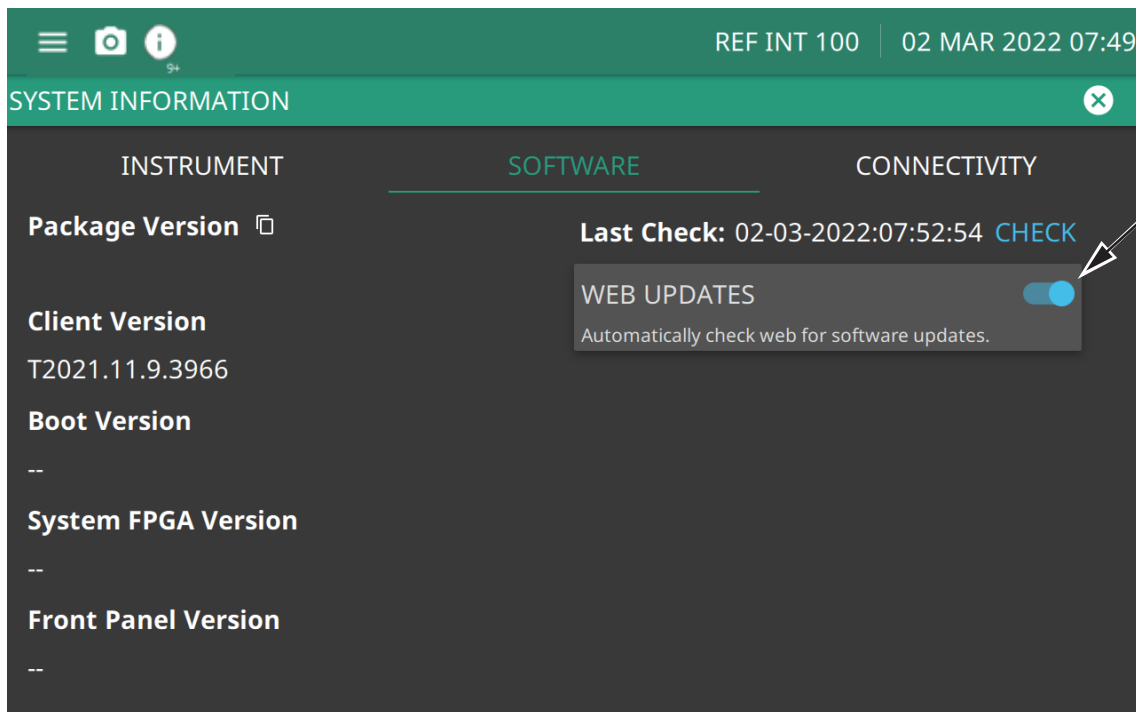

Figure B-1. Web Updates Button
4. Touch the WEB UPDATES button to the on position as shown in Figure B-1 to automatically check the for Anritsu website for updates.
11. Verify that the Package Version firmware as shown in Figure B-1 on page B-1 shows the most recent version firmware is installed.
9. Verify the Package Version firmware, as shown in Figure B-1 on page B-1, shows the most recent version firmware is installed.